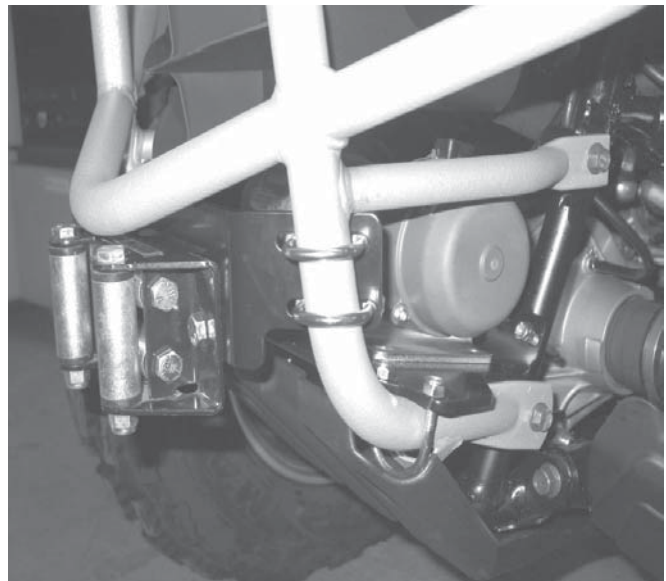

Figure 9 Completed Winch Installation
9. Attach fairlead to the fairlead mounting bracket (A1), figure 9. Use the two supplied 3/8" dia bolts, nuts, and lock washers provided with the winch kit. Install the lock washers and nuts on the fairlead side. Tighten the two 3/8" dia bolts to a recommended torque of 34 N-m (25 ft-lb). Note: a roller fairlead is shown in the instructions. If your winch came with a casted hawse fairlead it will attach in the same location, use the hardware that came in the winch to attach it to the bracket.